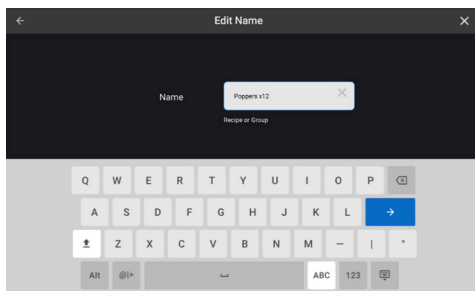

Figure 26: New Recipe Name
- Input the recipe name and touch the blue arrow button to continue (Figure 26, below).